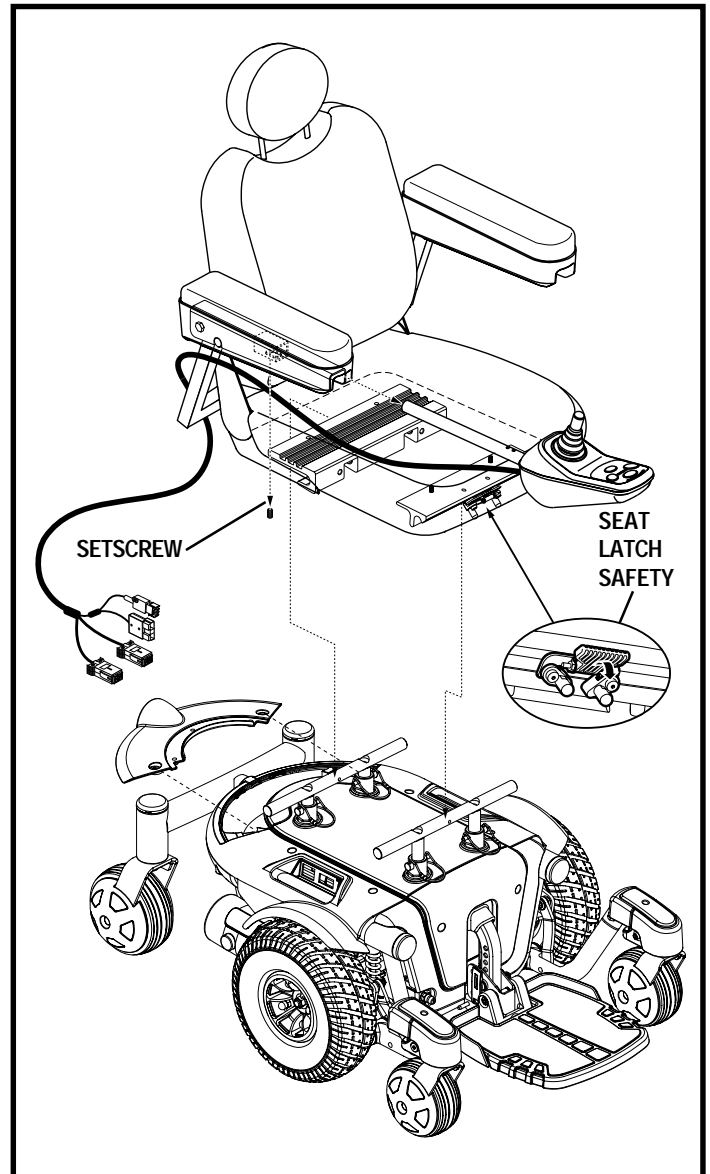

Figure 11. Universal Mounting System (VSI Shown)
It may be necessary to install the seat either prior to initial operation or after transporting your power chair. Most seats are attached to the power base with the Universal Mounting System (UMS). The UMS consists of universal parts that may be attached to any medium-back or high-back seat, regardless of seat width or seat depth. The two main components are aluminum extrusions mounted to the seat base. These extrusions attach to a pair of trapeze bars that are mounted to the power base. See figure 11.
1. Tilt the seat back and slide the rear extrusion onto the rear trapeze bar. See figure 11.
3. Flip the seat latch safety down. See figure 11.
4. Install the controller into one of the armrests. See figure 11. Tighten the setscrew.